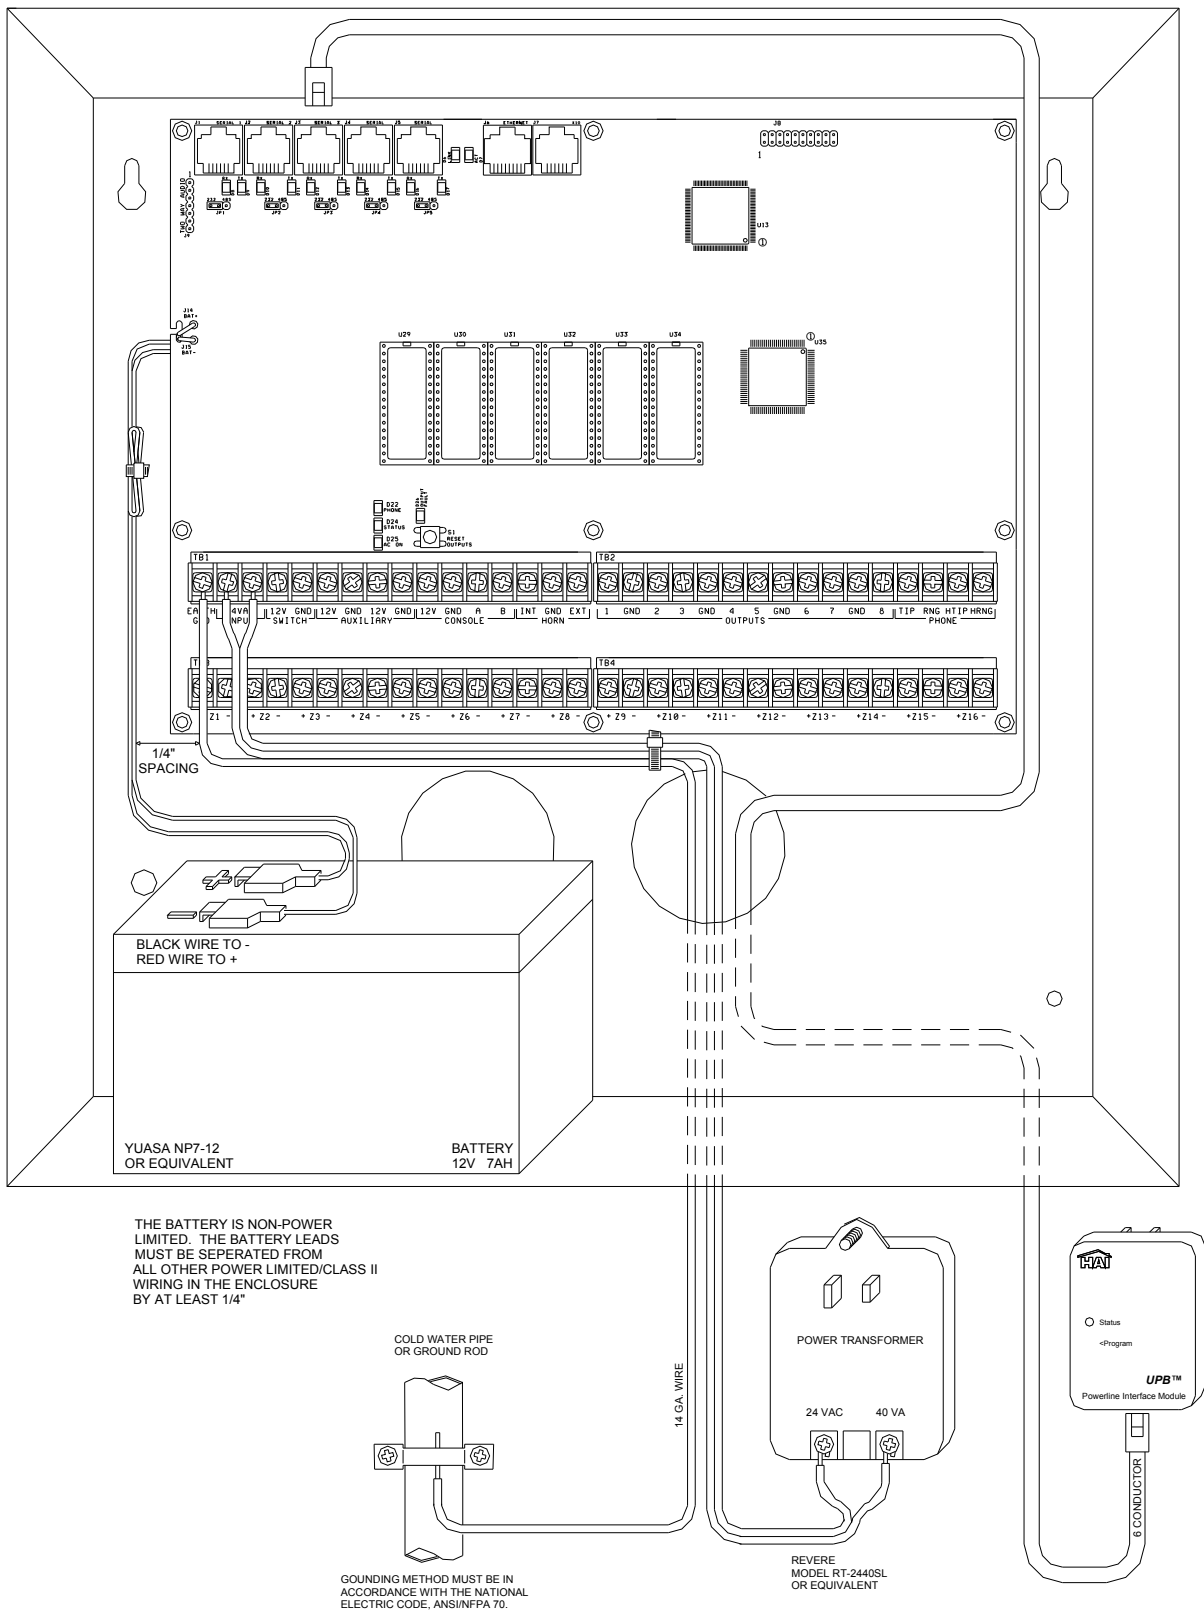

FIGURE 1 - CONTROLLER HOOKUP
| FIGURE 1 - CONTROLLER HOOKUP | 3 |
6. Refer to **FIGURE 1 (CONTROLLER HOOKUP)** for this configuration.